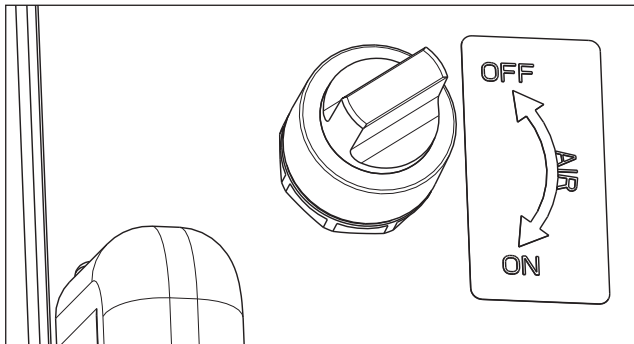

Figure 9 - Air On-Off Control
1. Move the pump air on-off control to the OFF position. See Figure 9.